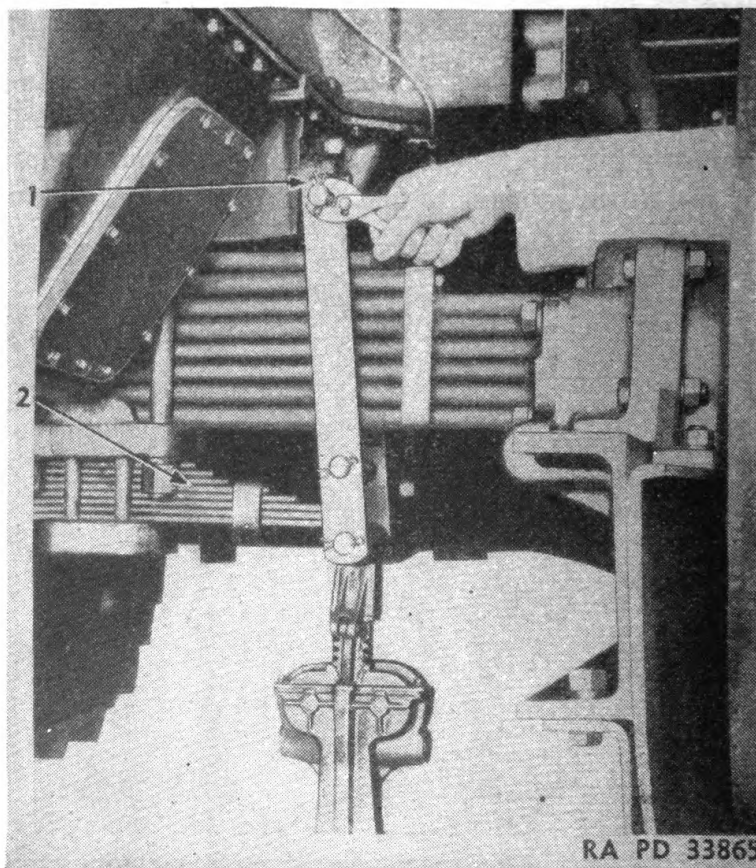

FIGURE 148.—Shackle pin removal.
a. Jack up shackle assembly at either end as shown in figure 148. Remove shackle pin (1) from one side. Remove jack and then pin on opposite side of the engine.